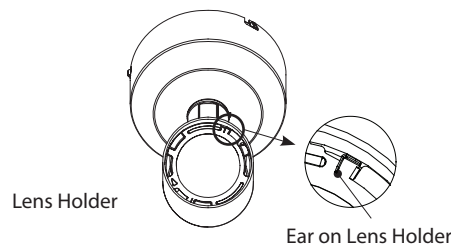

Fig 6
**Step 2:** Rotate lens holder with ears anticlockwise to remove it. (See Fig 6)